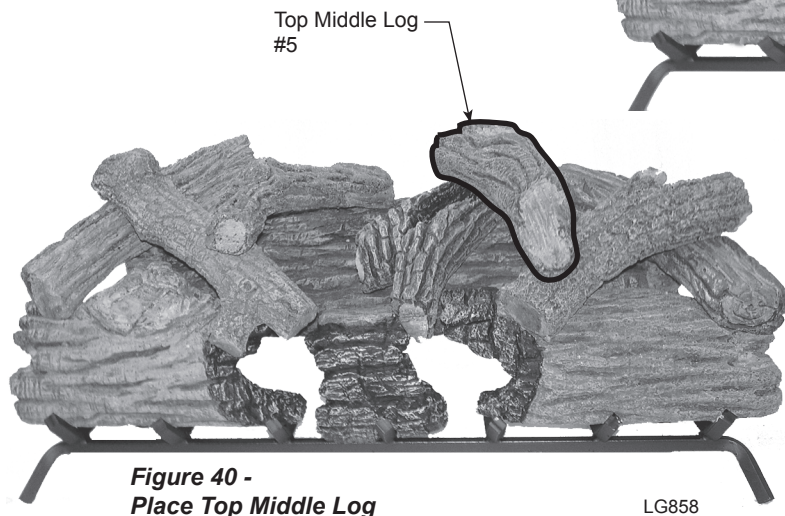

Figure 40 - Place Top Middle Log
- 12. Install top middle log #5. *Figure 40*